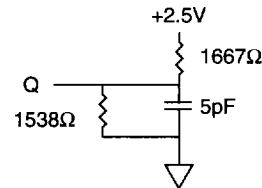

Figure 2
- Output loading is specified using Figure 2 with C_L = 5pF (for I_{OH} = -2mA and I_{OL} = 2mA).